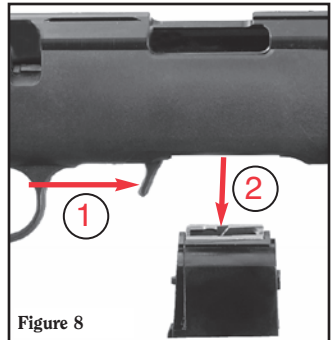

Figure 8
2. Remove the magazine. (See Figure 8.)